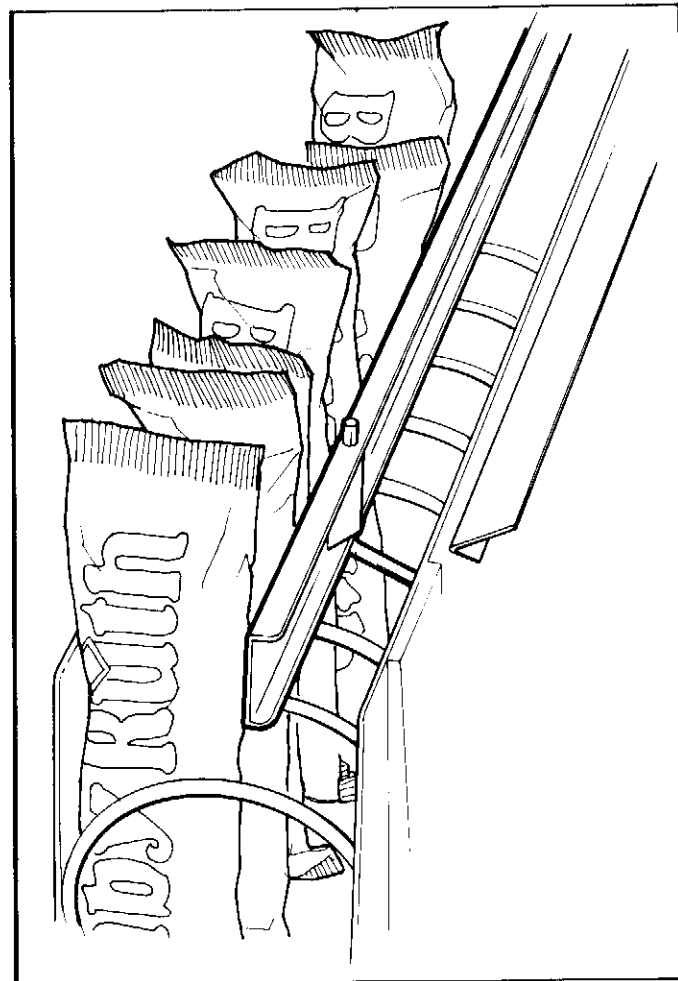

Figure 6. 8 SELECTION SHELF PRODUCT SPACER POSITIONED TO HOLD CANDY UPRIGHT.
7. **PRODUCT SPACERS 8 SELECTION SHELF:** The 8-Selection shelves are equipped with a product spacer (see Figure 6) that can be pivoted from the right side of